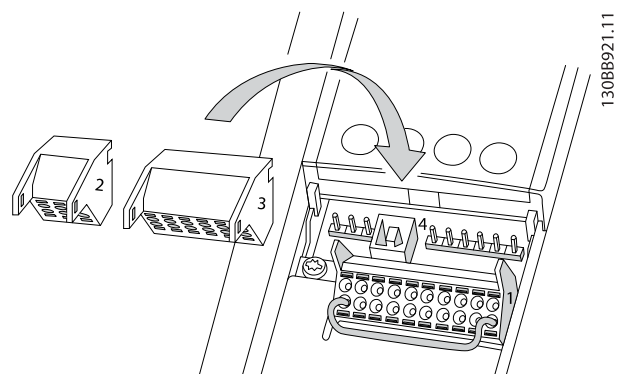
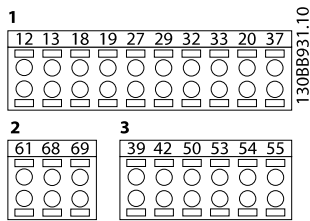

Figure 4.14 Control Terminal Locations
Figure 4.15 Terminal Numbers
- When the frequency converter is connected to a thermistor, ensure that the thermistor control wiring is screened and reinforced/double insulated. A 24 V DC supply voltage is recommended. See *Figure 4.14*.
Figure 4.14 and *Figure 4.15* show the removable adjustable frequency drive connectors. Terminal functions and default settings are summarized in *Table 4.2*.